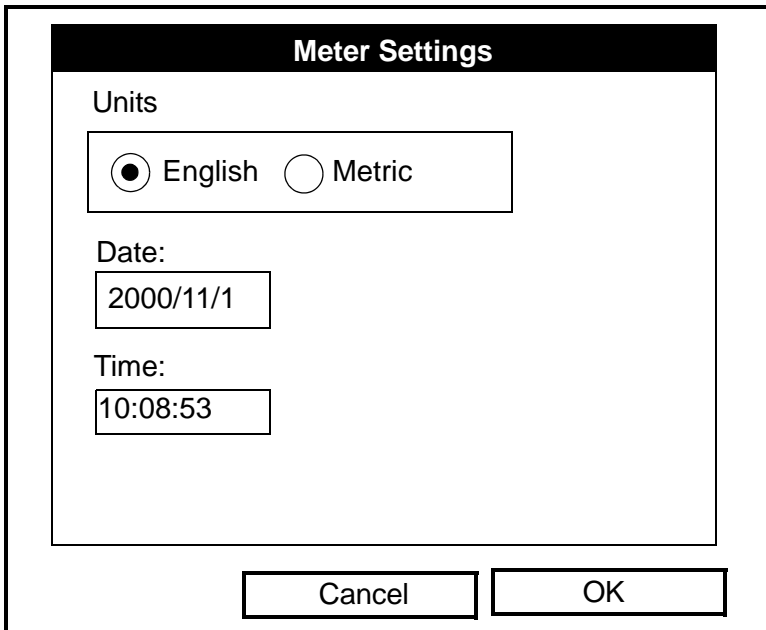

Figure 6-2: The Meter Settings Window
The first option, Units, enables you to select either English or Metric units as global measurement units for the PT878. The selected units then become the default settings for every measurement that has the option for metric/English units. To select the units, scroll to the Units entry on the Meter menu and press [ENTER]. The Meter Settings window opens, as shown in Figure 6-2 below.
1. From the Meter menu, scroll to the Date/Time entry and press [ENTER]. The Meter Settings window reopens, as shown in Figure 6-2 on page 6-3.